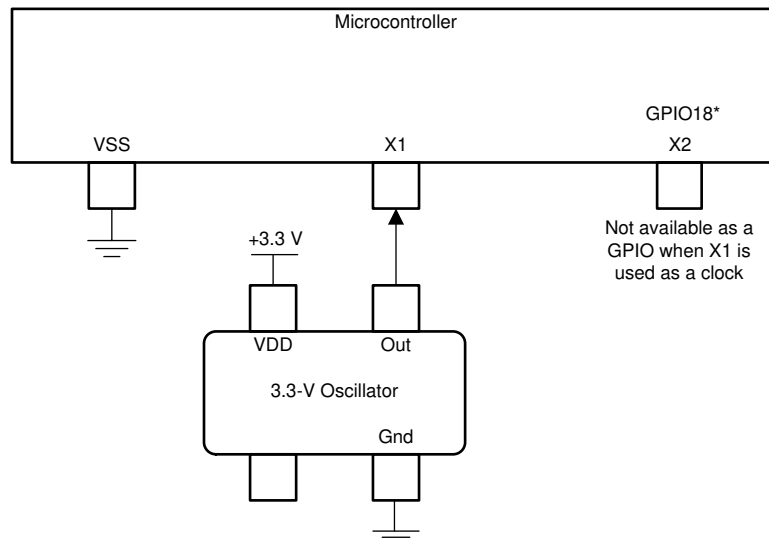

Figure 7-12. Single-ended 3.3-V External Clock
- A single-ended 3.3-V external clock. The clock signal should be connected to X1, as shown in Figure 7-12, with the XTALCR.SE bit set to 1.